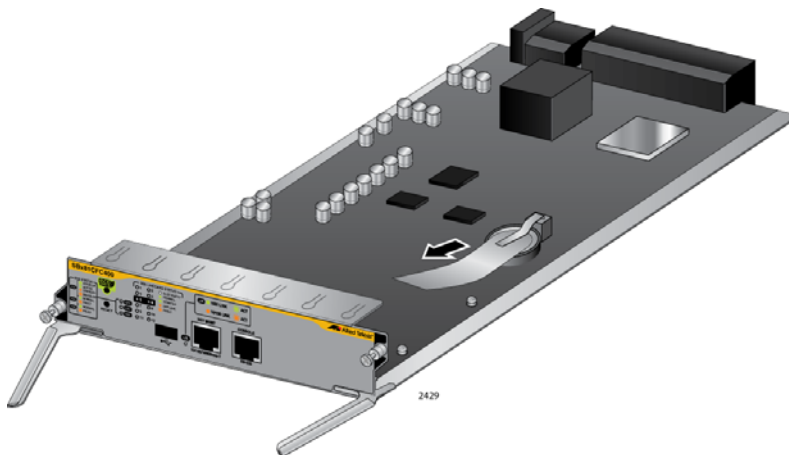

Figure 67. Removing the Battery Insulator
4. Carefully remove the battery insulator tab on the controller card by sliding it out from between the battery and battery clip, as shown in Figure 67 on page 132.